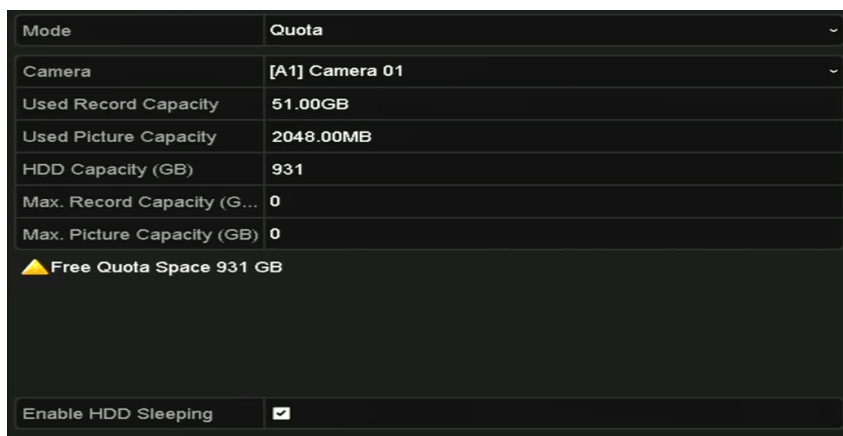

Figure 10-16 Storage Mode Settings Interface
Step 3 Set the **Mode** to Quota, as shown in Figure 10-16.